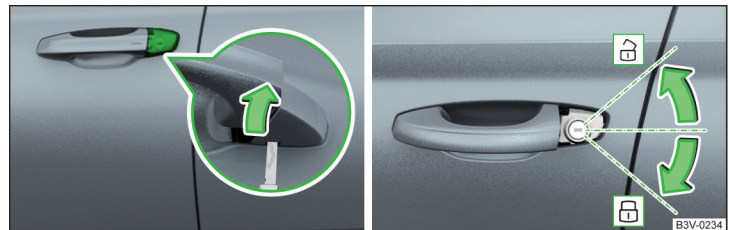

Fig. 246 Handle on the driver's door: unfold/lock and unlock the lock cover
- Insert the key into the recess on the lower side of the cover and fold up the cover in the direction of arrow » Fig. 246.